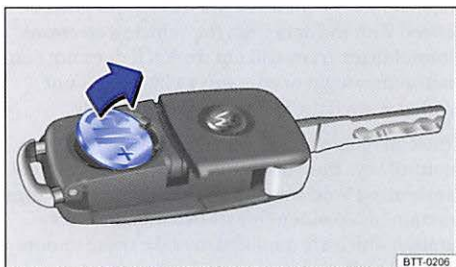

Fig. 16 Vehicle key: Remove old battery.
- Use a thin object to pry the battery out of the battery compartment ⇒ fig. 16.
- Position the cover as shown ⇒ fig. 16 and press it down (opposite to direction of the arrow) until you hear it click into place.